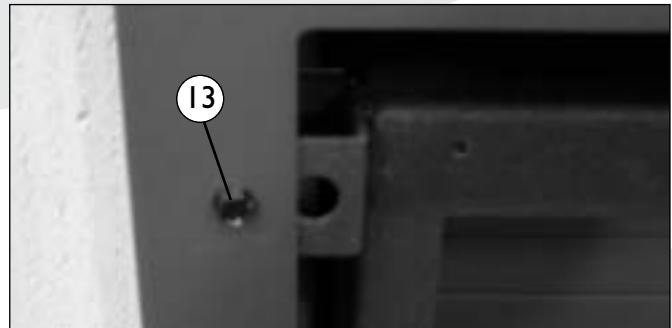

fig. 13
Fit the frame to the interior with the 4 self-tapping screws (13), (figs. 13 and 14).